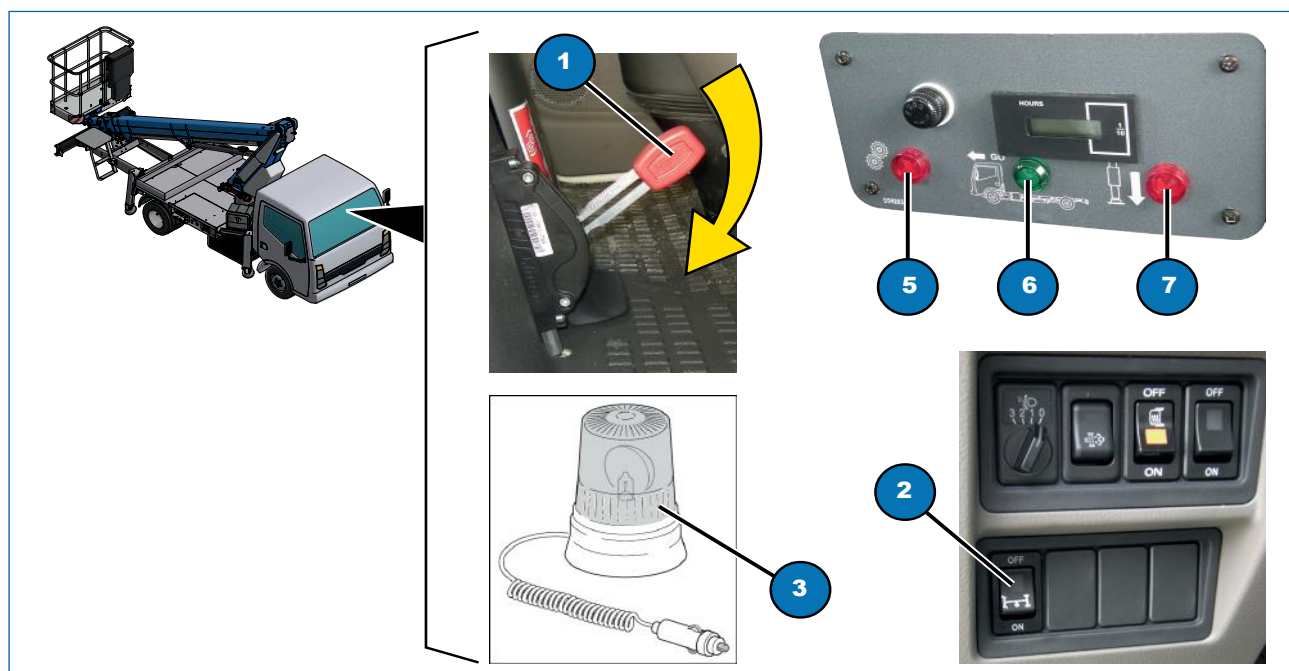

Fig. 6.1
**Procedure (Fig. 6.1):**
- if engaged mechanically, move the control lever (1), located between the seats, into the "ENGAGE" position; If it is engaged electronically: press the button (2) on the control panel that activates the PTO;
- the PTO indicator (5) will come on, an acoustic warning signal will sound and the hour counter will start;
- place the magnetic beacon light (3) on the roof of the machine and turn it on by inserting the plug in the cigar lighter socket.
Sit in the driver's seat (Fig. 6.1):
Disengage the power take-off as follows (Fig. 6.1):